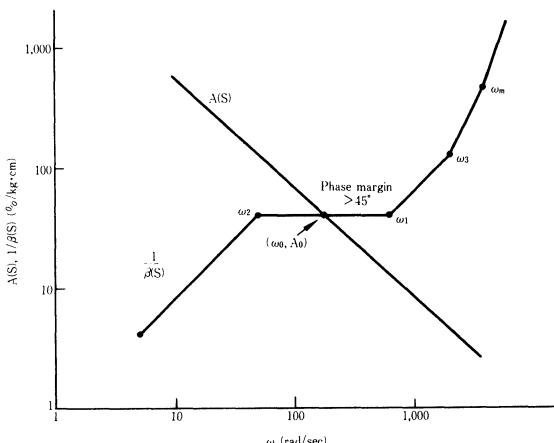

Fig. 3 Stable Relationship of $A(S)$ and $\beta(S)$
To control speed with stability, $A(S)$ and $\beta(S)$ are required to have a relationship shown in Fig. 3. That is, the angular frequency of the cross point of $A(S)$ and $\beta(S)$, ω_0 should be put between the angular frequency of an integrator, ω_1 , and ω_2 .
(3) Designing R_1 and R_2
From the Fig. 3 and the equation (12),